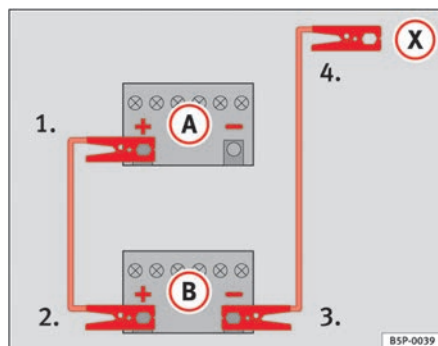

Fig. 151 How to connect the jump leads
⇒ fig. 151 (A) shows a flat battery and (B) a charged battery.
1. Connect one end of the red jump lead to the positive ⇒ fig. 151 (+) terminal of the vehicle with the flat battery ⇒ ⚠.
4. Connect the other end of the black jump lead (X) to a solid metal component which is bolted on to the engine block, or onto the engine block itself of the vehicle with the flat battery. Do not connect it to a point near the battery ⇒ ⚠.